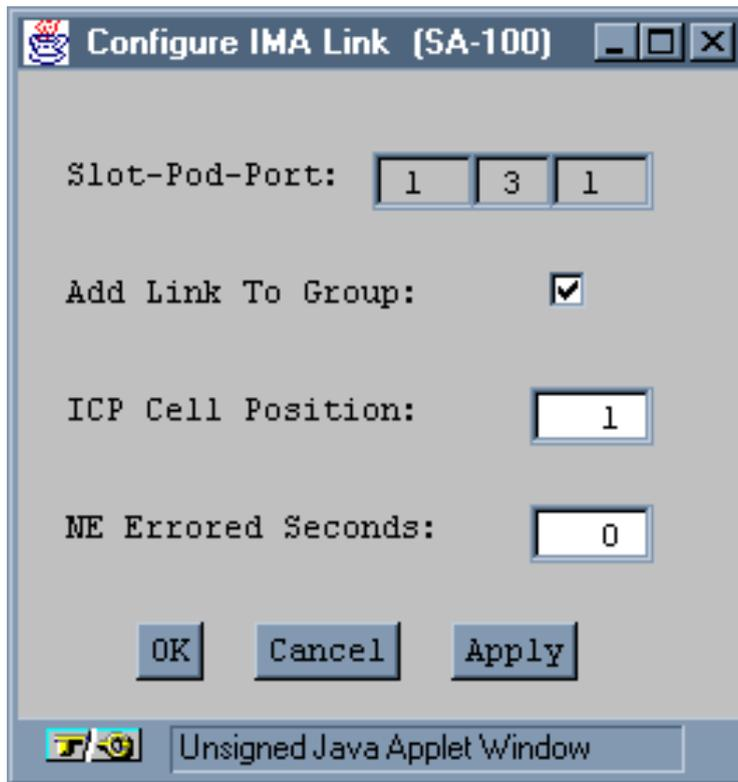

Figure 4-11. Configure IMA Link Window
1. Select the IMA DS1 or E1 from the Modify IMA Group window's Add/Remove Links field. The Configure IMA Link window appears (Figure 4-11):